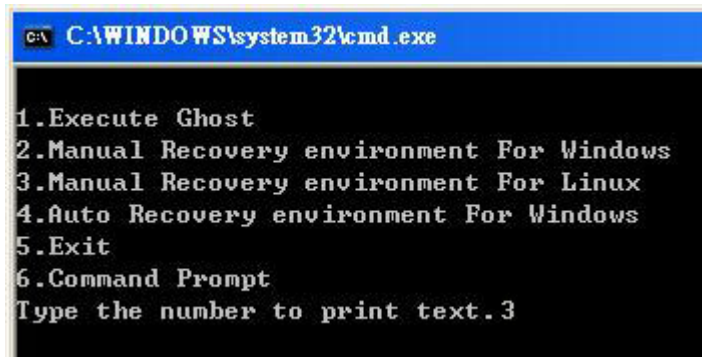

Figure B-31: Manual Recovery Environment for Linux
**Step 4: Build the recovery partition.** Press any key to boot from the recovery CD. It will take a while to launch the recovery tool. Please be patient. When the recovery tool setup menu appears, type <3> and press <Enter> (**Figure B-31**). The Symantec Ghost window appears and starts configuring the system to build a recovery partition. After completing the system configuration, press any key to reboot the system. Eject the recovery CD.